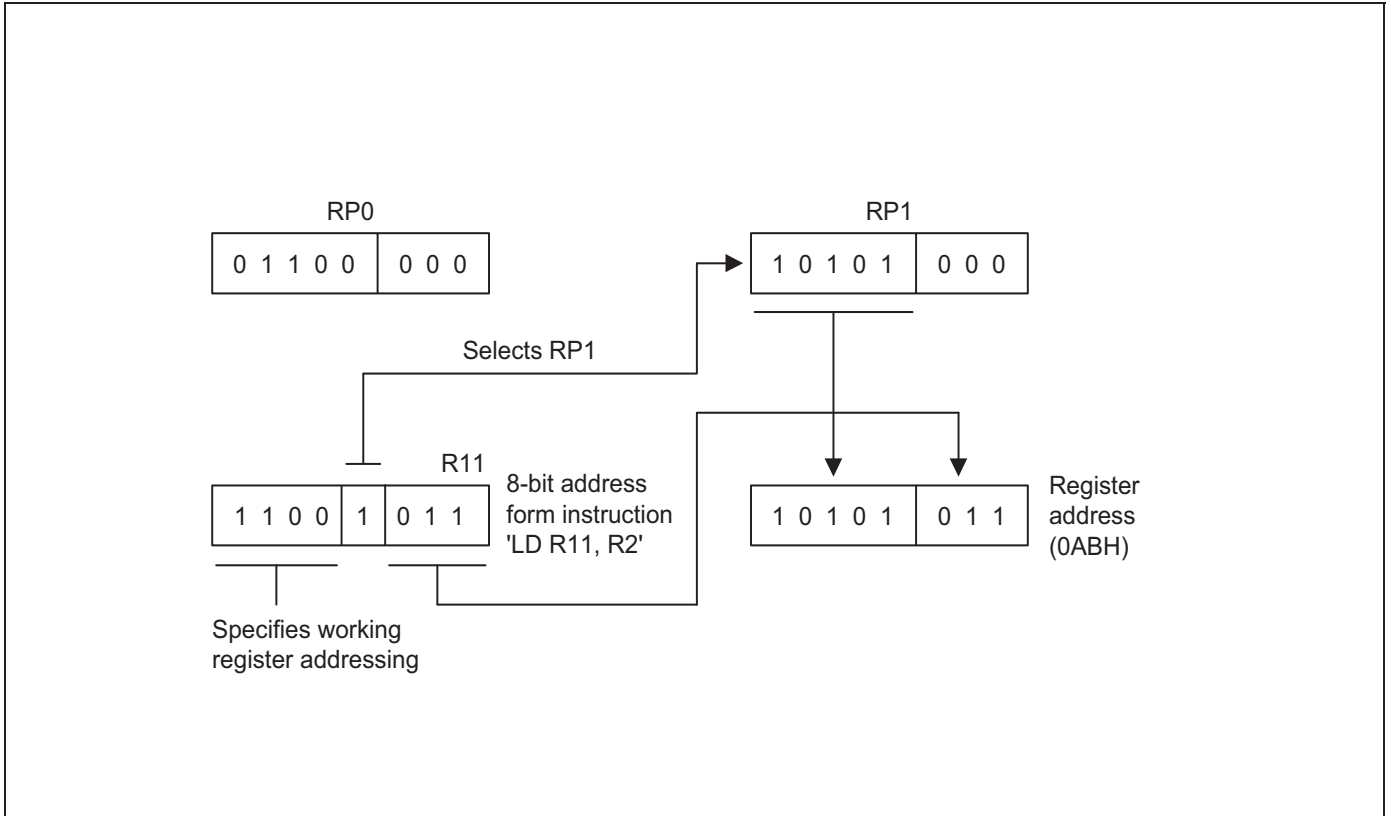

Figure 2-15 8-Bit Working Register Addressing Example
Figure 2-15 shows an example of 8-bit working register addressing. The four high-order bits of instruction address (1100B) specify the 8-bit working register addressing. Bit 4 ("1") selects RP1, and the five high-order bits in RP1 (10101B) become the five high-order bits of register address. The three low-order bits of register address (011) are provided by the three low-order bits of 8-bit instruction address. The five address bits from RP1 and three address bits from instruction are concatenated to form the complete register address, 0ABH (10101011B).